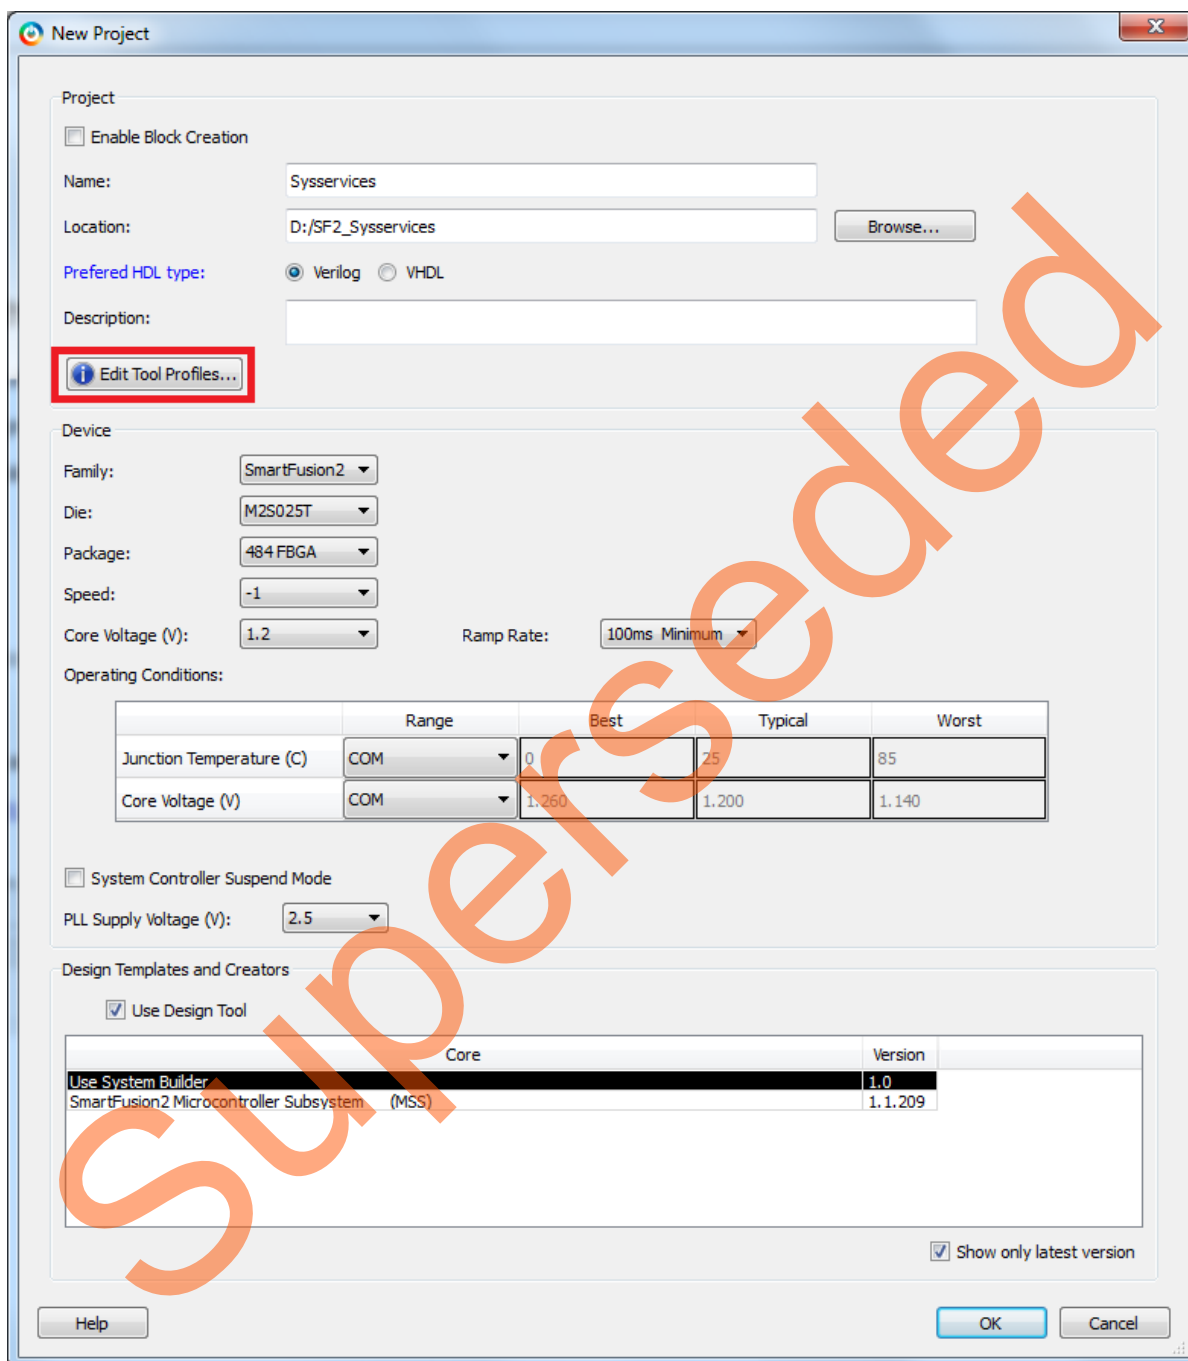

Figure 4 • Libero New Project Dialog Box
3. Enter the required information for the project and the device in the **New Project** dialog box, as shown in Figure 4 on page 8:
4. Select **Use Design Tool** and **System Builder** in the **Design Templates and Creators** section of the **New Project** window as shown in Figure 4.